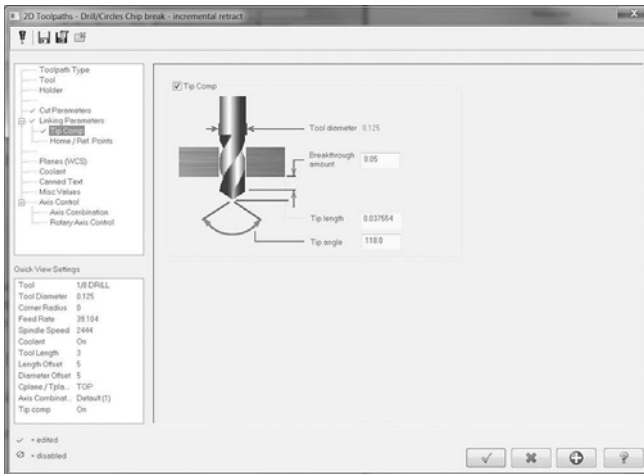

Figure 5-53 Tip Compensation Dialog
- Activate Tip Comp and adjust the Breakthrough amount to $.05$ " as in Figure 5-53.